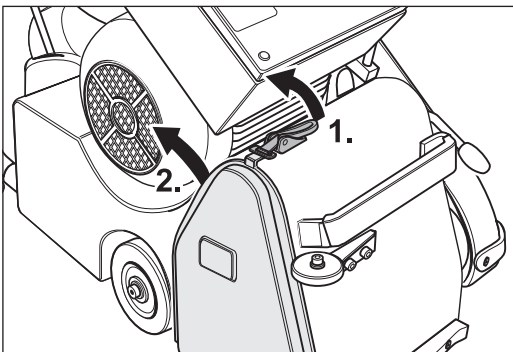

Fig. 67 Release the cover lock (1.) and remove the side cover (2.).
- 3 Release the cover lock (Fig. 67, 1.) and remove the side cover on the right of the machine housing (Fig. 67, 2.).